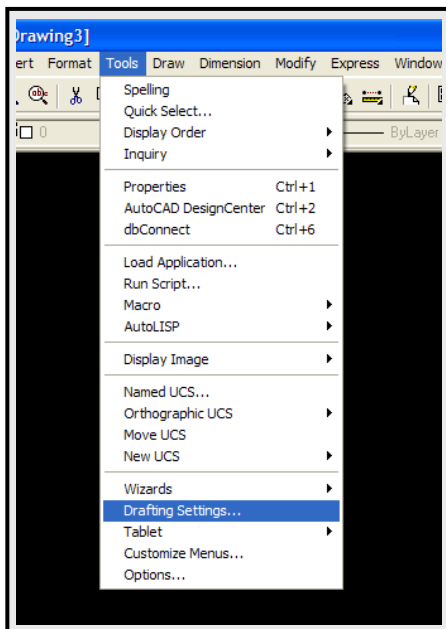

Fig.6: Tools menu, Drafting Settings Snap is turned on
- Select *Drafting Settings* (Fig.6).